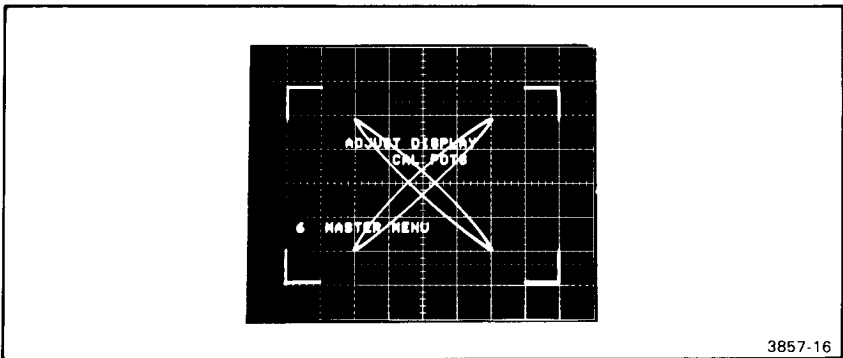

Figure 2-8. Adjust HORIZ GAIN.
**Step 3** Adjust the HORIZ GAIN (horizontal gain) control to bring the right edge of the DISPLAY CAL PATTERN into alignment with vertical graticule line 9 of the display as shown in Figure 2-8. These adjustments are interactive and you may need to work back and forth between them to optimize pattern and graticule alignment.